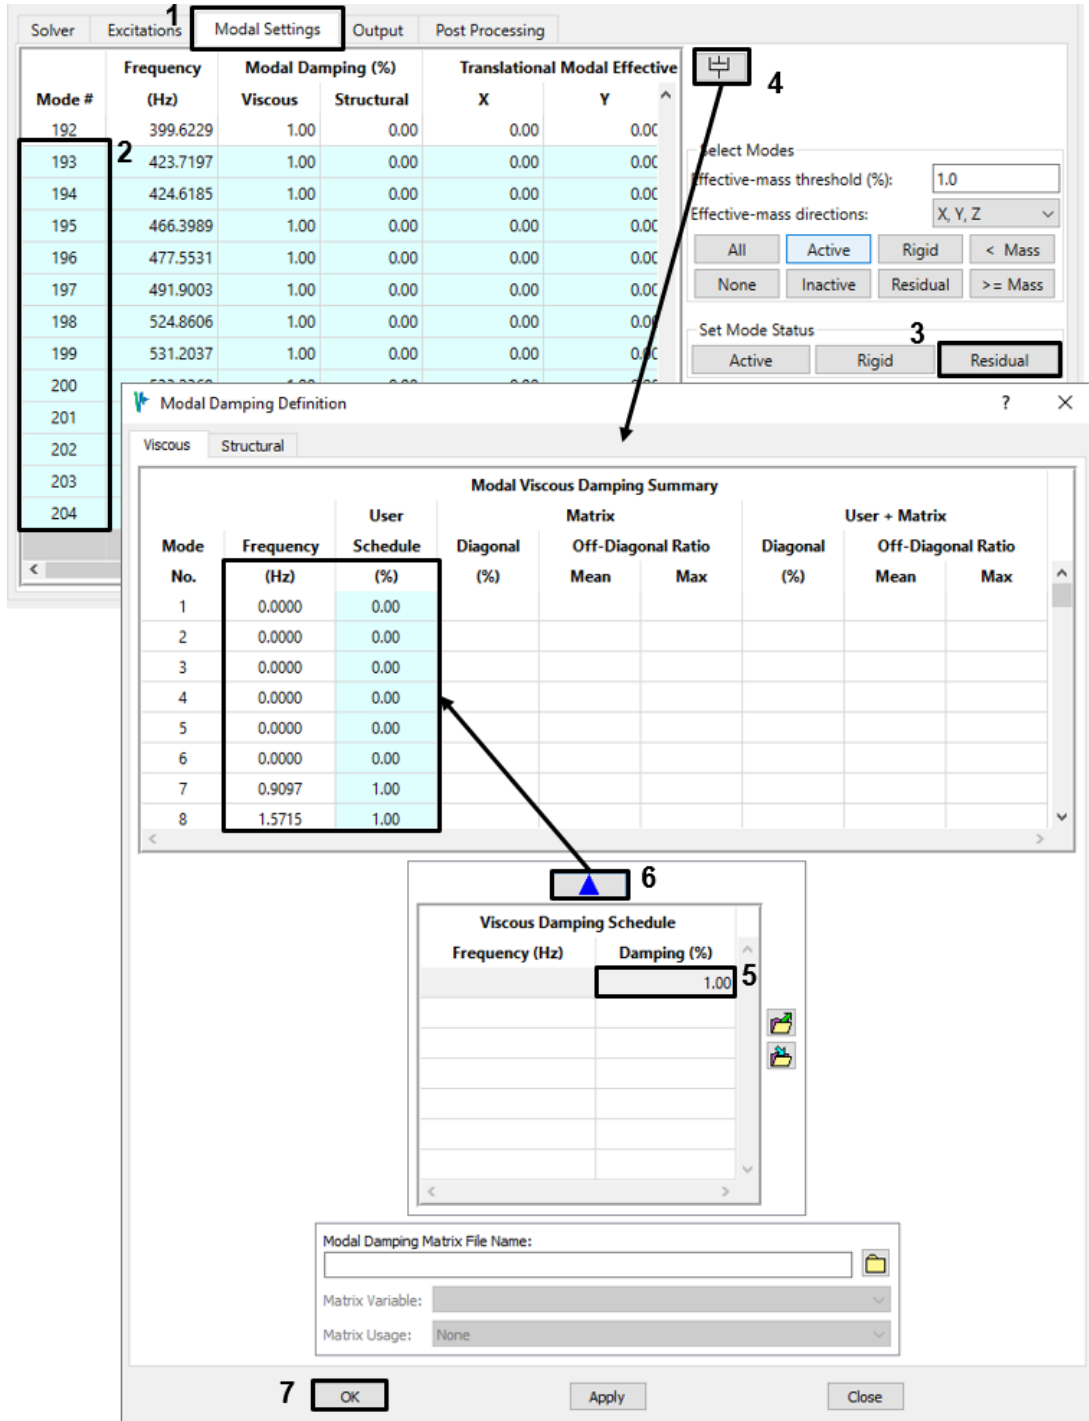

Figure 4-98. Use the damping schedule to assign 1% damping to all flexible modes.
- Go to the *Modal Settings* tab. Make sure to designate the modes above 400 Hz as residual vectors and then set the damping. This model has too many modes to set individually, so bring up the damping dialog and use its damping schedule to set the damping of all modes to 1% (Figure 4-98). Rigid body modes will remain at 0% damping.